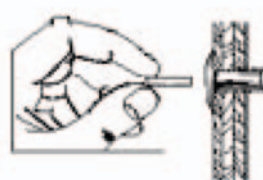

Figure 4
- Insert the stem into the body of the rivet (Fig 4).